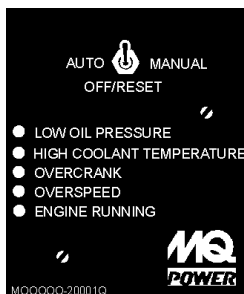

Figure 43. MPEC Engine Running Status LED (OFF)
5. Verify that the "Engine Running" status LED (Figure 43) on the Microprocessor Engine Control Module (MPEC) display is "OFF" (not lit).